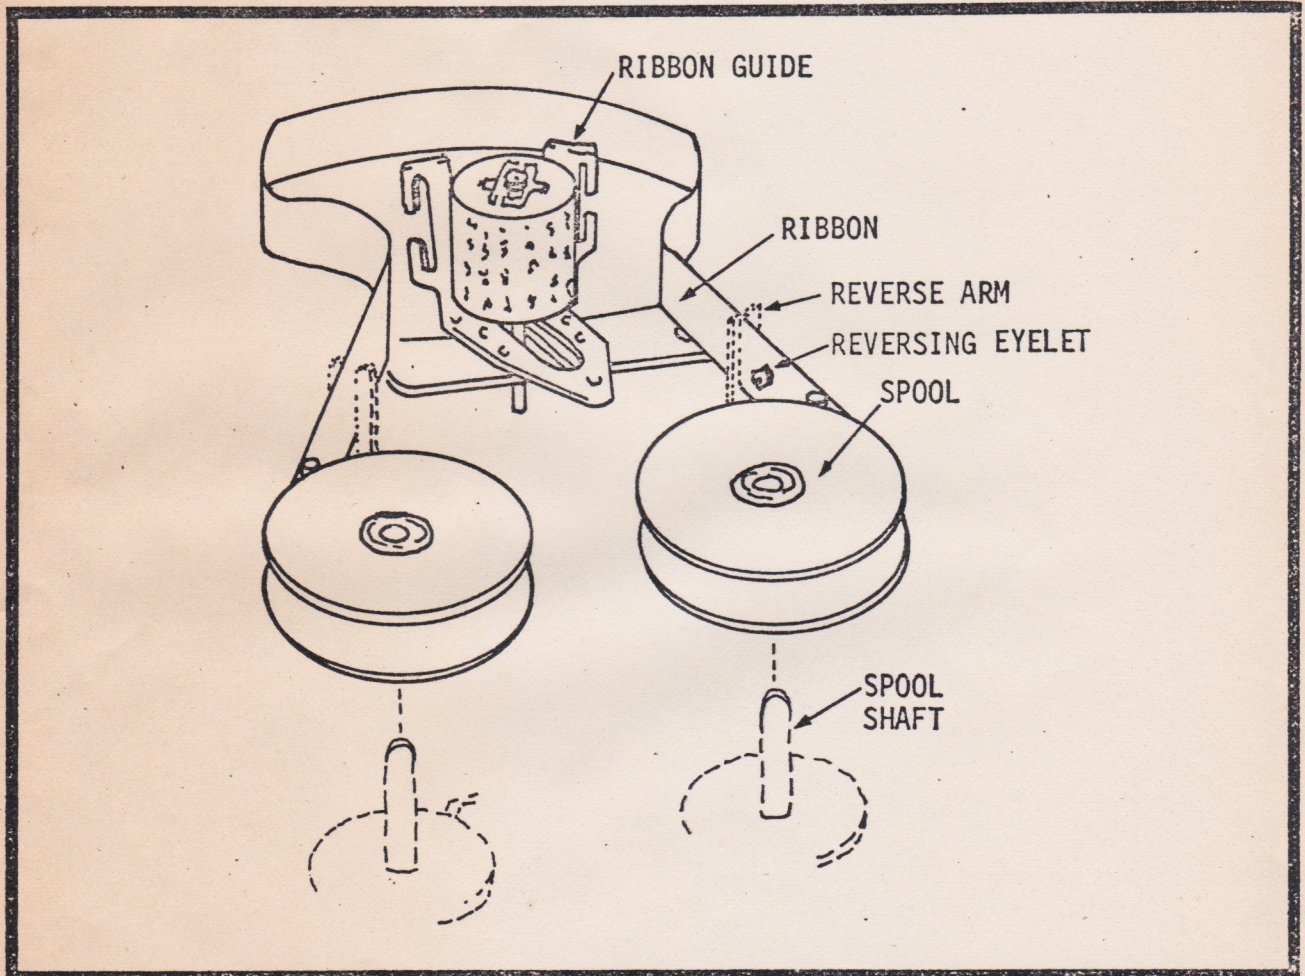

Figure 8-5. Ribbon Guide Mechanism
5. Lift both spools from the spool shafts by gently applying upward pressure until the spools unhook from the shafts, as shown in Figure 8-5.
6. Release the ribbon from the reverse arms and the ribbon guides, as shown in Figure 8-5.